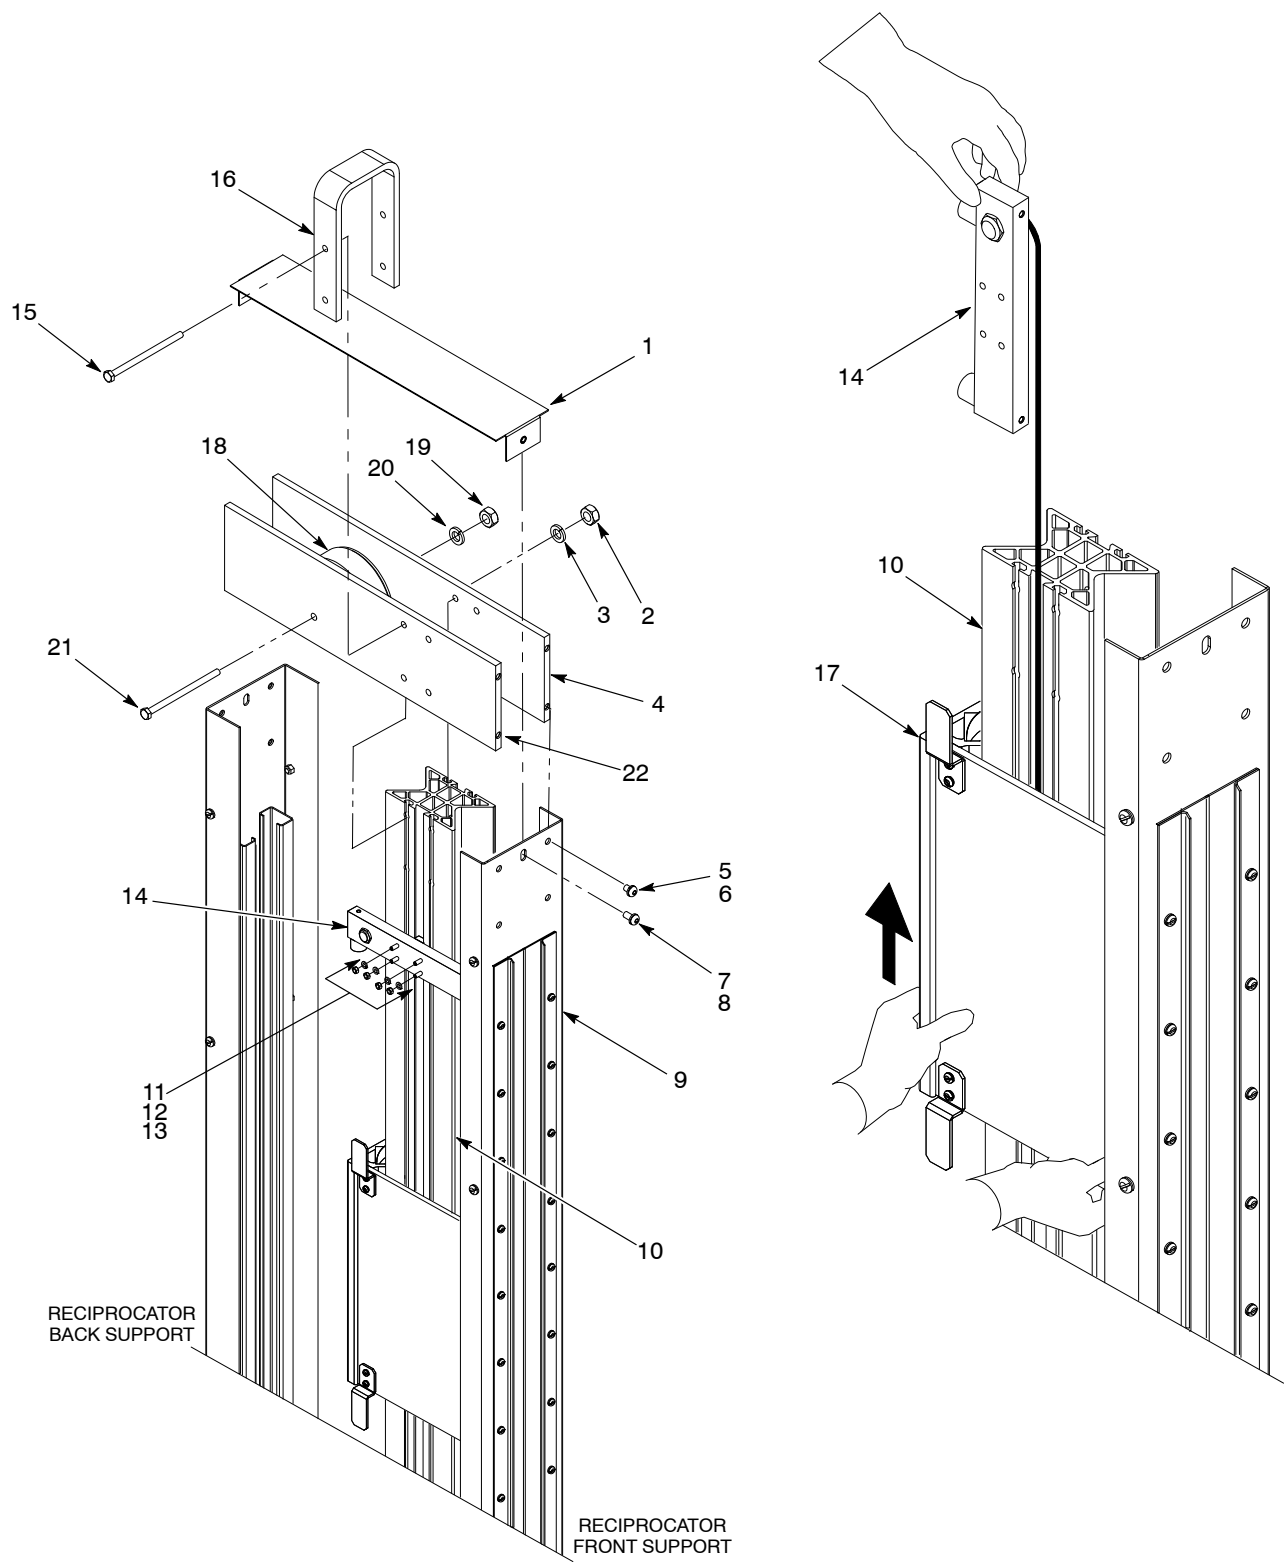

Figure 17 Installing the Gun Carriage Assembly
1. See Figure 17. Hold the the top bumper assembly (14) as shown. Carefully slide the gun carriage (17) over the bumper assembly until it contacts the bottom bumper assembly.
2. Install the top bumper assembly (14):
- a. Insert the T-bolts (13) into the back of the top bumper assembly.
- b. Position the top bumper assembly onto the gun carriage track (10) at the mark that was made prior to removing it.
- c. Insert the T-bolts (13) into the gun carriage track (10). Install the lock washers (12) and nuts (11) onto the T-bolts. Tighten the nuts securely.
3. Install the side plates (4, 22) onto gun carriage track (10) using two screws (15), lock washers (3) and nuts (2). Only hand tighten the screws.
4. Install the U-lift bracket (16) to the side plates (4, 22) using the other two screws (15), lock washers, and nuts (2). Only hand tighten the screws.
5. Install the top pulley assembly (18) in between the side plates (4, 22) using the screw (21), lock washer (20) and nut (20). Tighten the screw securely.
6. Tighten all screws (15), lock washers (3) and nuts (2) to secure the side plates (22, 4) to the gun carriage track (10).
7. Secure the side plates (4, 22) to the front and back support of the reciprocator using the screws (5) and lock washers (6). Tighten the screws securely.